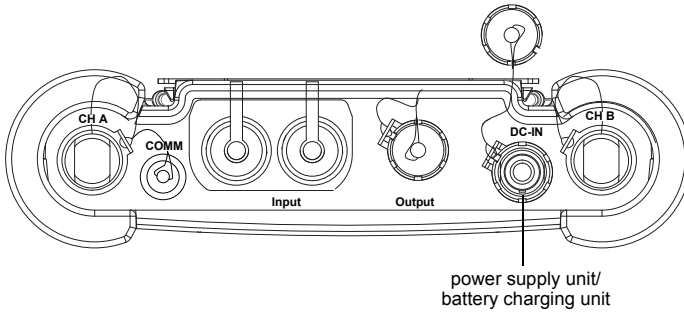
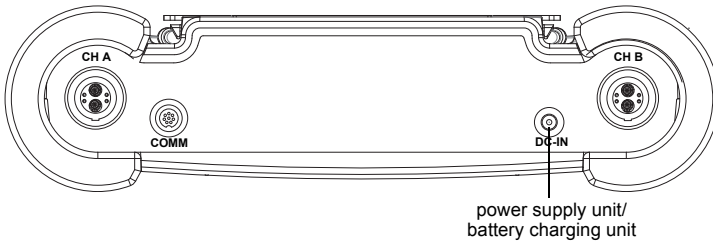

Fig. 7.11: Connections of the transmitter FLUXUS F608
Fig. 7.12: Connections of the transmitter FLUXUS F608**-F2
- Connect the power supply unit to the transmitter (see Fig. 7.11 or Fig. 7.12).